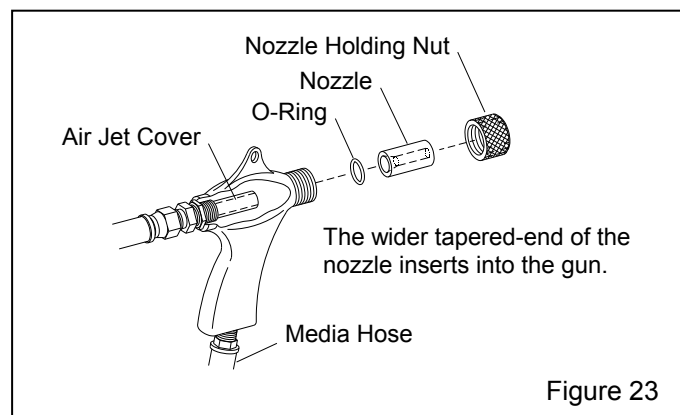

Figure 23
7.2 BNP Gun Assembly, Figure 23